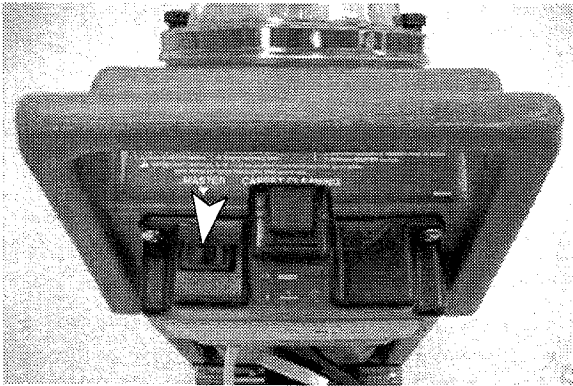

FIG. 3
1. Turn on Master switch (Figure 3).